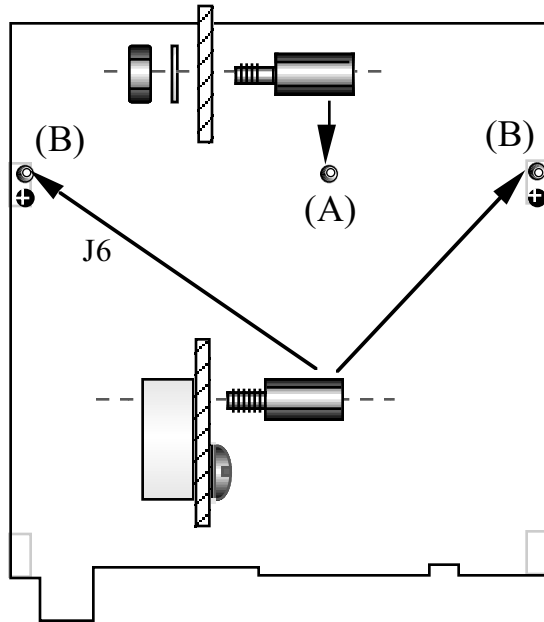

Figure 6-9
- On the top side of the RF board, locate the hole identified as (A) in Figure 6-9. (The label "S1" appears near the hole.)
- Install a 7/16" (11 mm) hex male-female standoff on the top of the board at location (A) as shown. Use an internal-tooth lock washer and 4-40 nut on the bottom. Do not over-tighten the hardware; the standoff threads can be easily stripped.
- Install 7/16" (11 mm) hex male-female standoffs at the two locations identified as (B) in Figure 6-9, replacing the existing 3/16" pan-head screws. *Do not use any lock washers.*